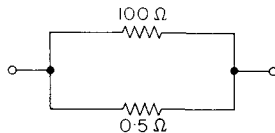

Fig. 1
- The total resistance of the parallel circuit (Fig. 1) is